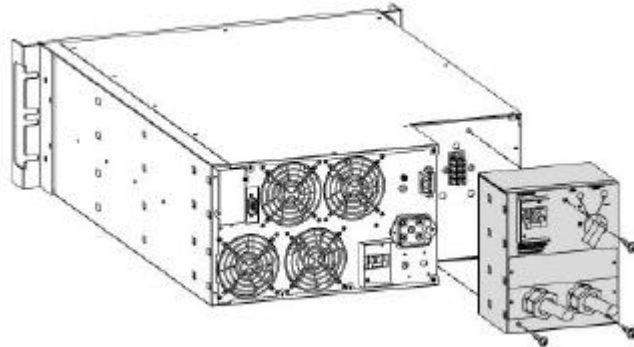

FIG 73 – 6KVA POWER UNIT SEPERATION FROM PDU
2. Loosen the 3 mounting screws on the PDU and slide it out from the power module (FIG 73).